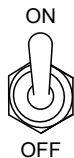

Figure 40. Control Power Switch (ON)
4. Place the **Control Power switch** (Figure 40) in the **ON** position.